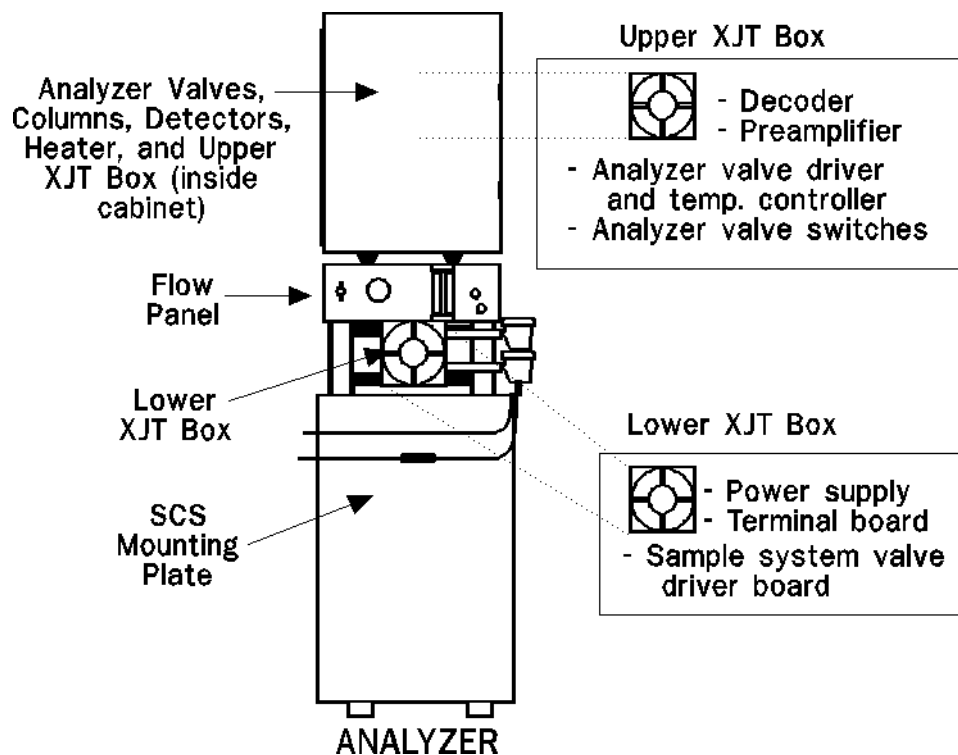
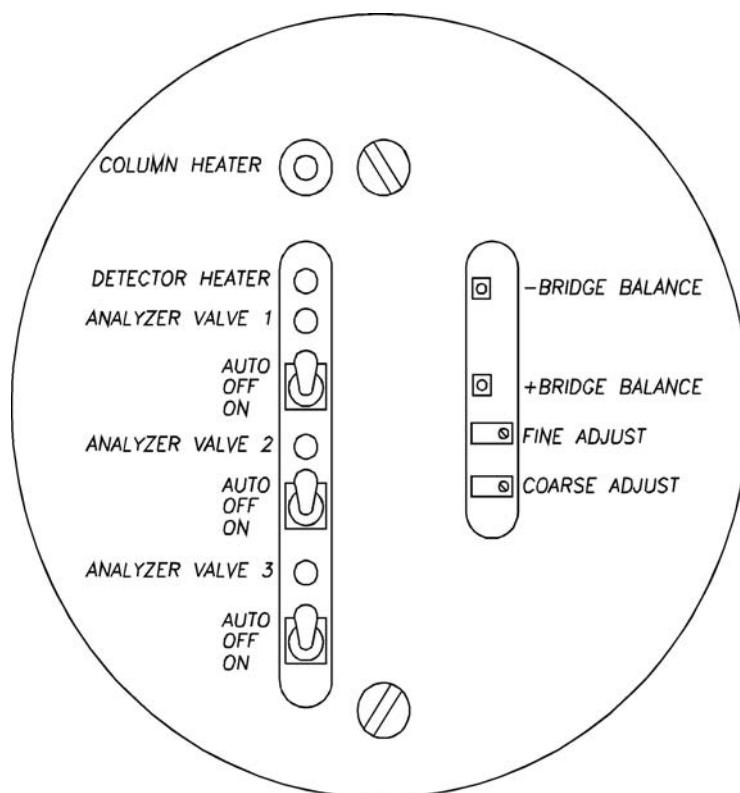
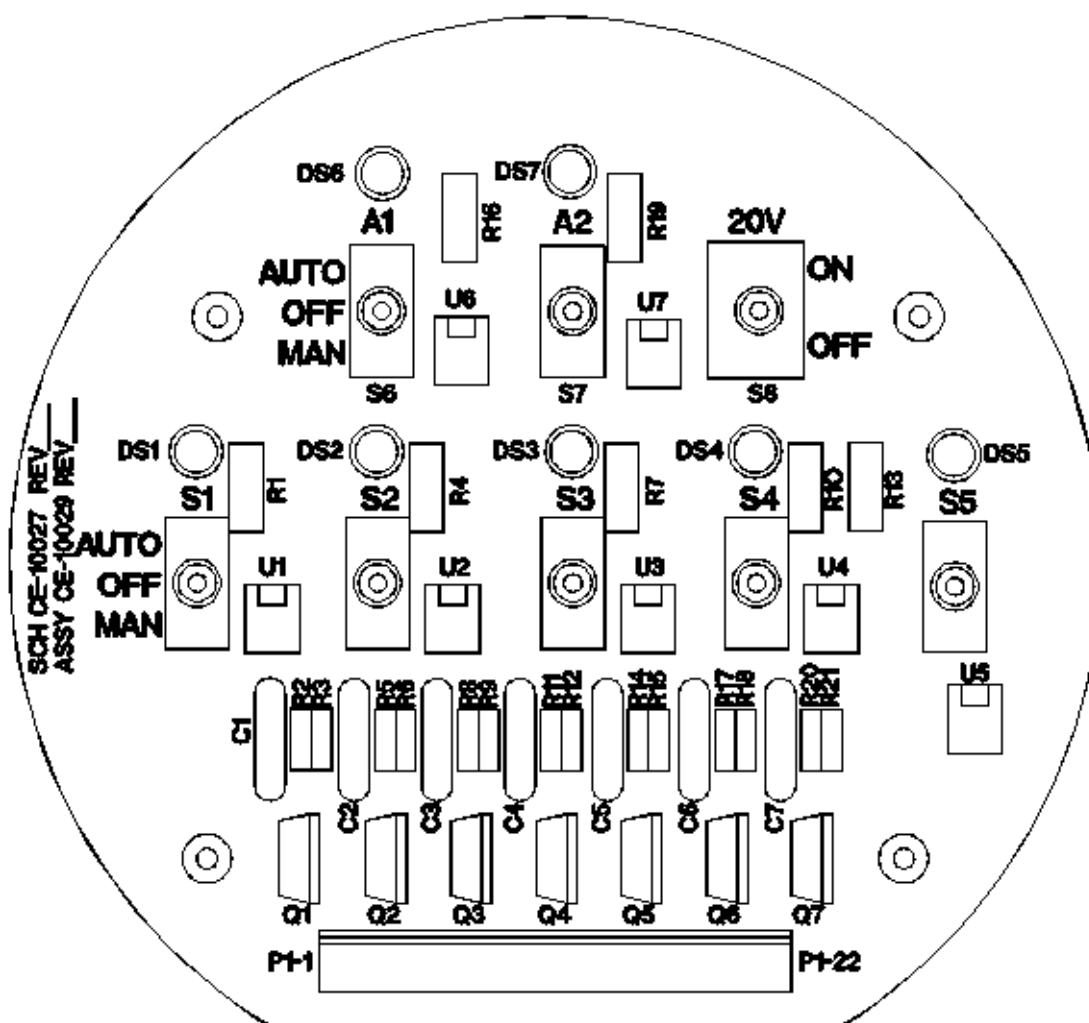

Figure 3-28. Location of Analyzer XJT Boxes
Figure 3-29. Analyzer Valve Switches, Upper XJT
Figure 3-30. Analyzer Valve Driver Board (in lower explosion-proof housing)
With AC power turned ON and the upper XJT box open, the green LED (by the "Column Heater" label) should now be illuminated. (See Figure 3-28 and Figure 3-29.)
5. Open the lower XJT box of the Analyzer (Figure 3-28) to access the Valve Driver board (Figure 3-30).
11. Repeat steps (7) through (10) five times.